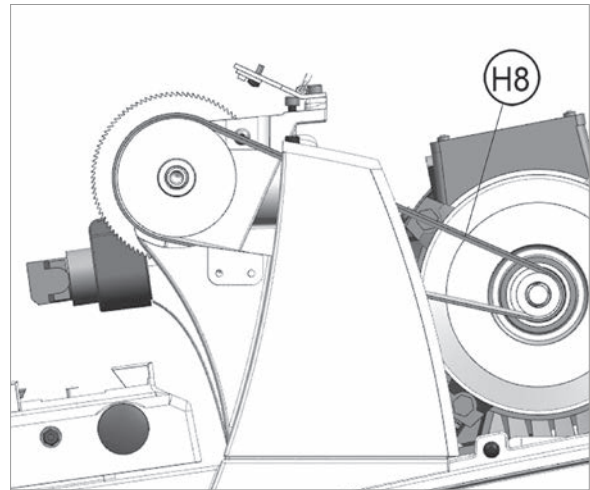

Fig.85
- 9) Remove the belt (H8) and fit a new belt into the two pulleys (Fig.85).